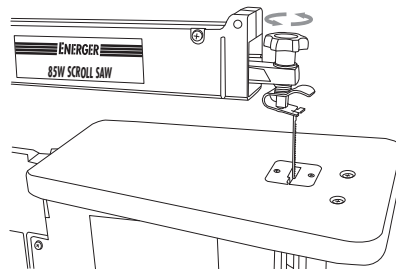

Fig. 11
- > Loosen tension on blade by turning tension knob (2) counterclockwise just until the tension spring is fully compressed. (Fig. 11)